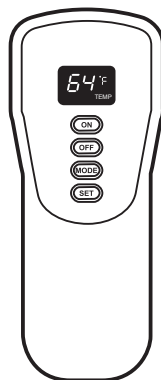

Figure 25 - Remote Control
1. Place the slide switch on the receiver in the remote position (see Figure 25).
4. Press the ON button on the remote control to light the burner (see Figure 25). You will hear a series of beeps. This will also "learn", or program, the remote and the receiver.
The factory setting for temperature is °F. To change this setting to °C, press the ON key and the OFF key on the remote control at the same time (see Figure 25, page 22). This will change from °F to °C. Follow this same procedure to change from °C back to °F.